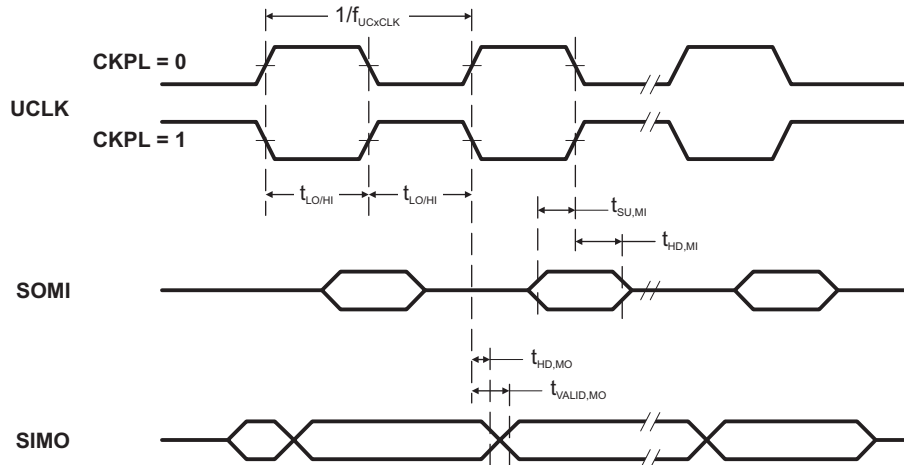
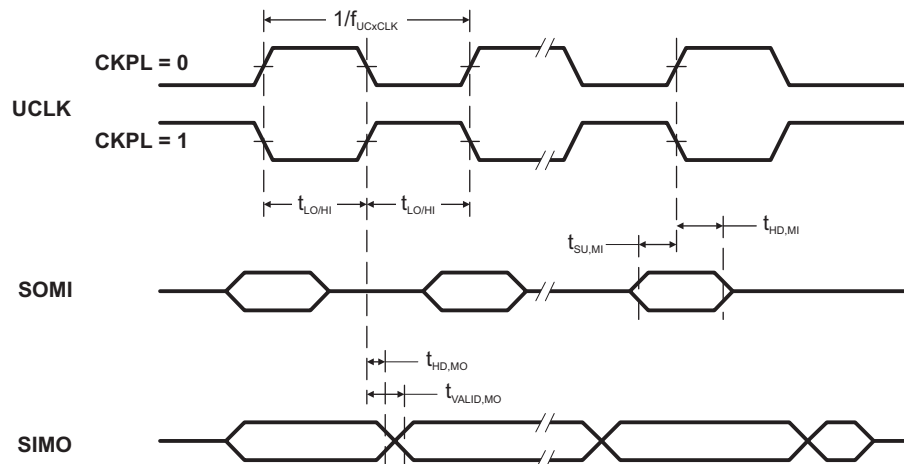

Figure 12. SPI Master Mode, CKPH = 0
Figure 13. SPI Master Mode, CKPH = 1
(see Note ⁽¹⁾, Figure 12 and Figure 13)
- (2) Specifies the time to drive the next valid data to the SIMO output after the output changing UCLK clock edge. See the timing diagrams in Figure 12 and Figure 13.
- (3) Specifies how long data on the SIMO output is valid after the output changing UCLK clock edge. Negative values indicate that the data on the SIMO output can become invalid before the output changing clock edge observed on UCLK. See the timing diagrams in Figure 12 and Figure 13.
- (2) Specifies the time to drive the next valid data to the SOMI output after the output changing UCLK clock edge. See the timing diagrams in Figure 12 and Figure 13.
- (3) Specifies how long data on the SOMI output is valid after the output changing UCLK clock edge. See the timing diagrams in Figure 12 and Figure 13.